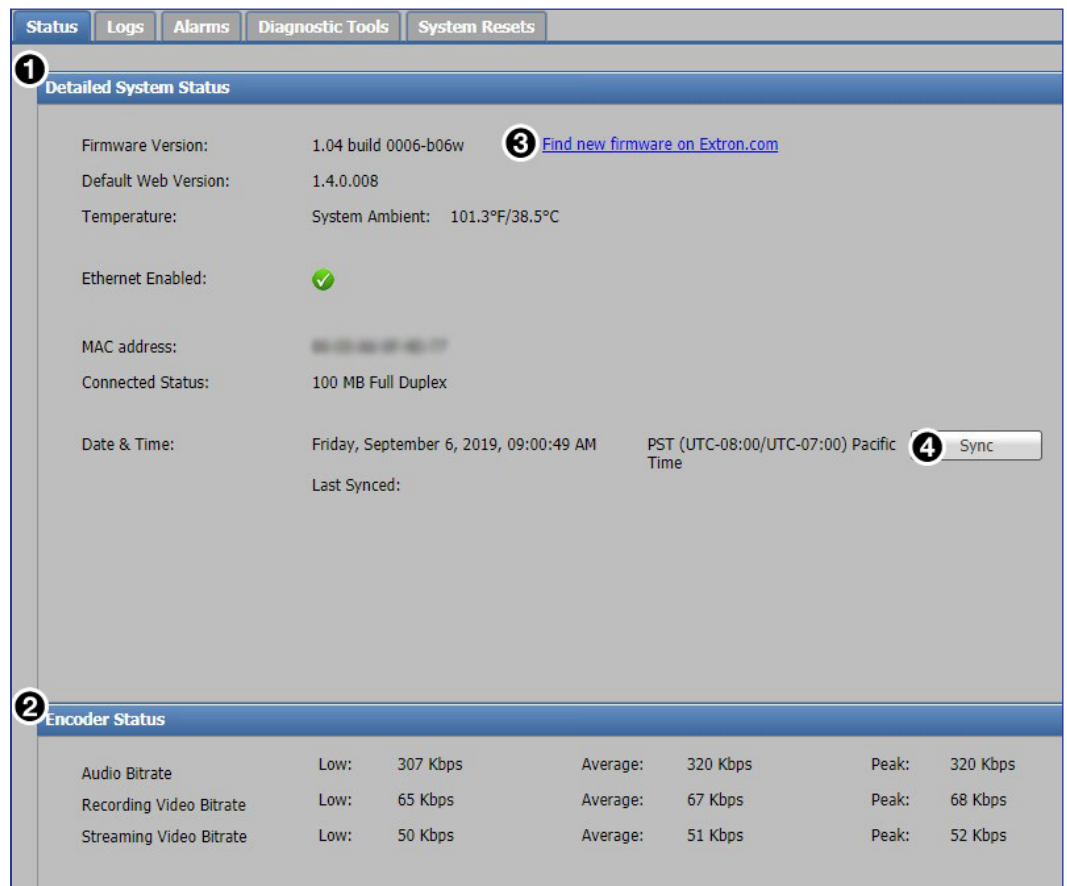

Figure 62. Troubleshooting, Status Page
The **Status** page opens, showing the **Detailed System Status** (see figure 62, ❶) and **Encoder Status** (❷) panels.